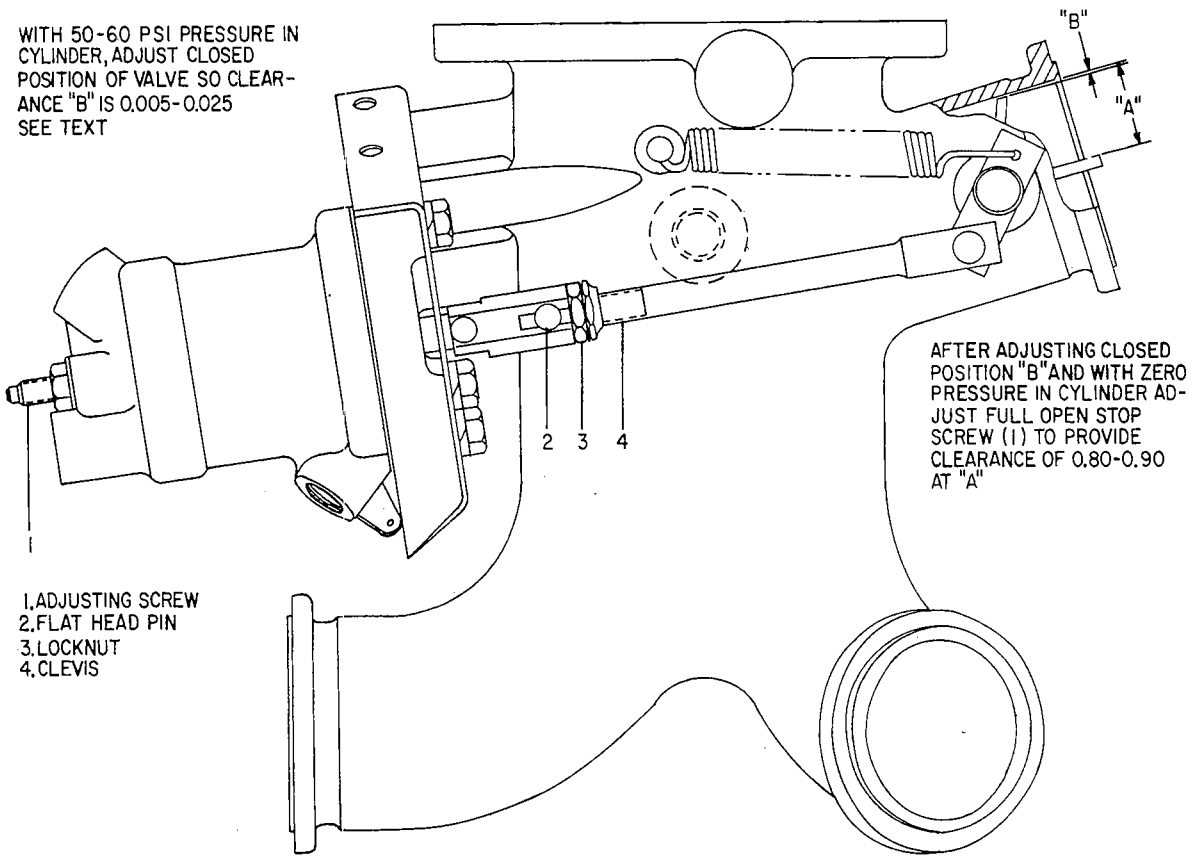

Figure 5-13. Exhaust Bypass Valve - Opened and Closed Positions - TIO-541-A, -E1A4, -E1B4
5-59. See figure 5-13. (TIO-541-A, TIO-541-E1A4, -E1B4). Apply 50 - 60 psi pressure to cylinder and adjust closed position ("B") of the valve by rotating turnbuckle counter-clockwise to fully close the butterfly. Back off turnbuckle clockwise until clearance "B" is 0.005 - 0.025 inch. Insert pins (2), and secure with cotter pins. Tighten lockbut (3) to 80 - 100 inch pounds.